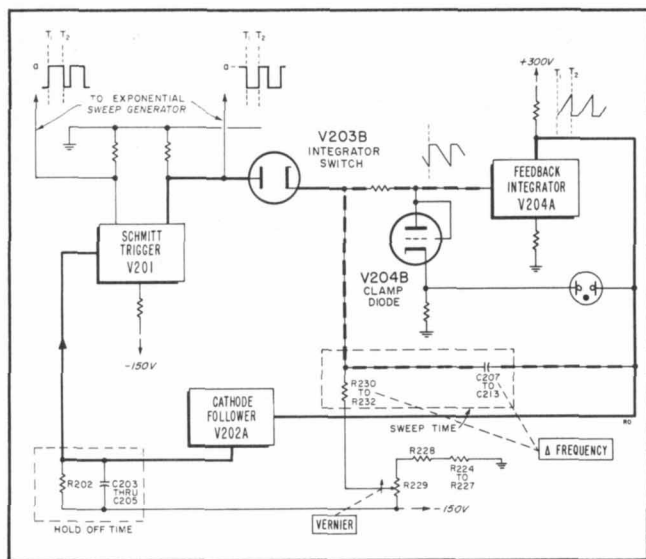

Figure 3-8. Simplified Schematic of Sweep Circuit
The linear sweep generator consists of a Miller feedback integrator (V204A) which generates a linear voltage sweep whose slope can be adjusted by changing the charging rate of the integrator capacitor (C207 to C213). The  $\Delta$ FREQUENCY (MC) range switch (part of which is shown in figures 3-8 and 4-26) changes the values of the integrator resistors (R230 to R232) and capacitors (C207 to C213) to obtain step changes
The feedback integrator is made automatically recurrent, and the output is made constant in amplitude by operating the schmitt trigger (see figures 3-8 and 4-26) from the output of the integrator. After being unlocked by the schmitt trigger, the integrating circuit charges to a predetermined level established by the sensitivity of the trigger. At this level, the feedback voltage causes the trigger to change state. The trigger relocks the integrator circuit and terminates the sweep with a rapid flyback. Trigger tube V201A is held conducting for a predetermined period of time by a charge on C205 and supplementary capacitors to allow time for circuit recovery. As the capacitors discharge, trigger V201 returns to its original state which, in turn, unlocks the integrator circuit so it can generate another sweep.